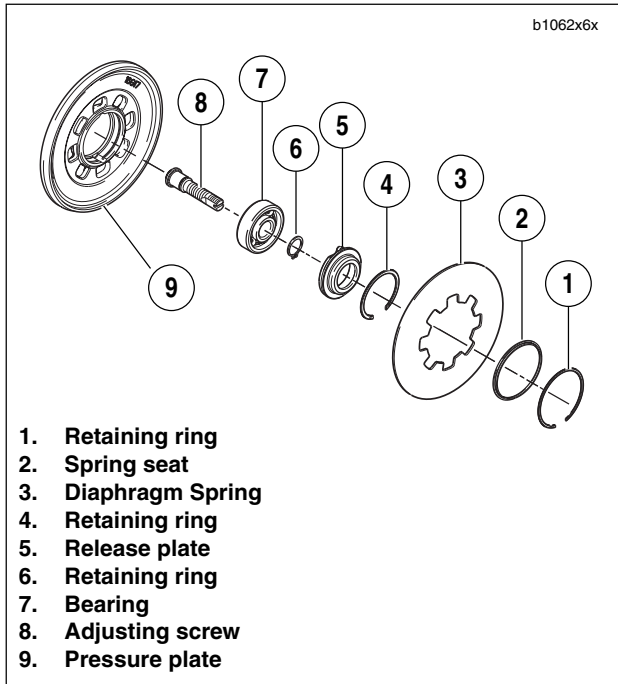

**Figure 6-14. Pressure Plate Assembly**
See Figure 6-14. Turn compressing tool handle only the amount required to release spring seat and remove snap ring. Excessive compression of diaphragm spring could damage clutch pressure plate.
5. See Figure 6-14. Remove pressure plate assembly.
See Figure 6-14. Turn compressing tool handle only the amount required to install spring seat and snap ring. Excessive compression of diaphragm spring could damage clutch pressure plate.